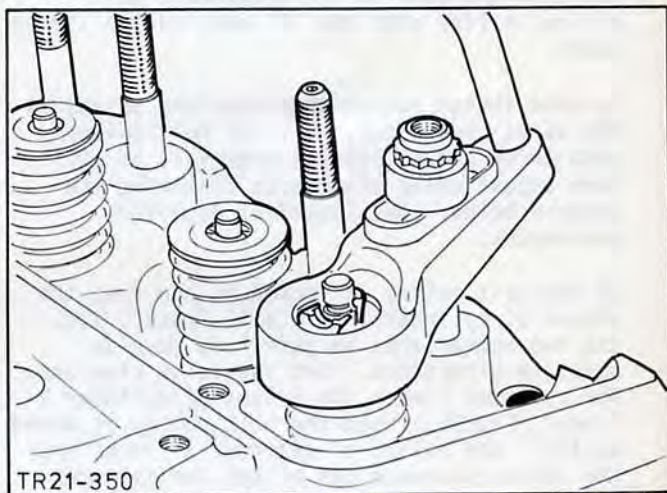

Fig.92. Fitting valve spring with special tool 21-056.
6. Fit valve spring and spring retainer, compress using special tool 21-056 and insert valve collets, Fig.92.